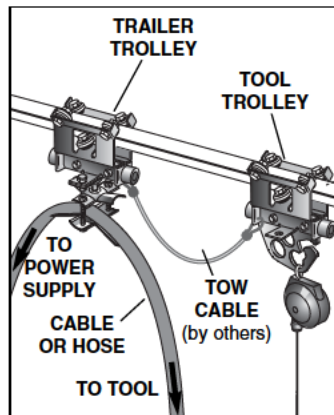

FIGURE 4
NOTE: The installation described is a curved tool rail. Therefore the primary trolley includes a tool hook. Since supplying power to a tool which travels around curves can prove difficult, a festoon trailer trolley may be used to facilitate management of power cord or hose. See Figure 4.
STEP 2- Slide trolley(s) onto end of track that temporarily has no end stop. If using a festoon trailer trolley, be sure it is installed between tool hook trolley and power supply. See Figure 4.